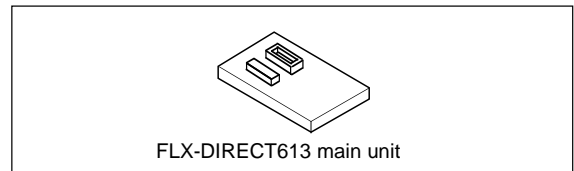

Figure 1 Package components of FLX-DIRECT613
2. Package Components (see Figure 1)